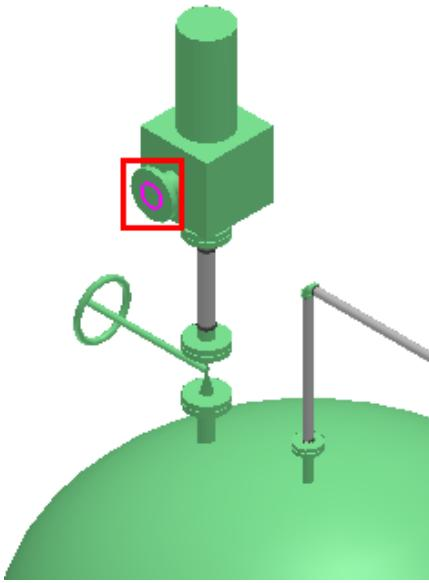

Figure 26: End Feature of Relief Valve
- Select the end feature of the valve, as shown in Figure 26, and open the **Pipe End Feature Properties** dialog box to reduce the pressure and change the diameter.